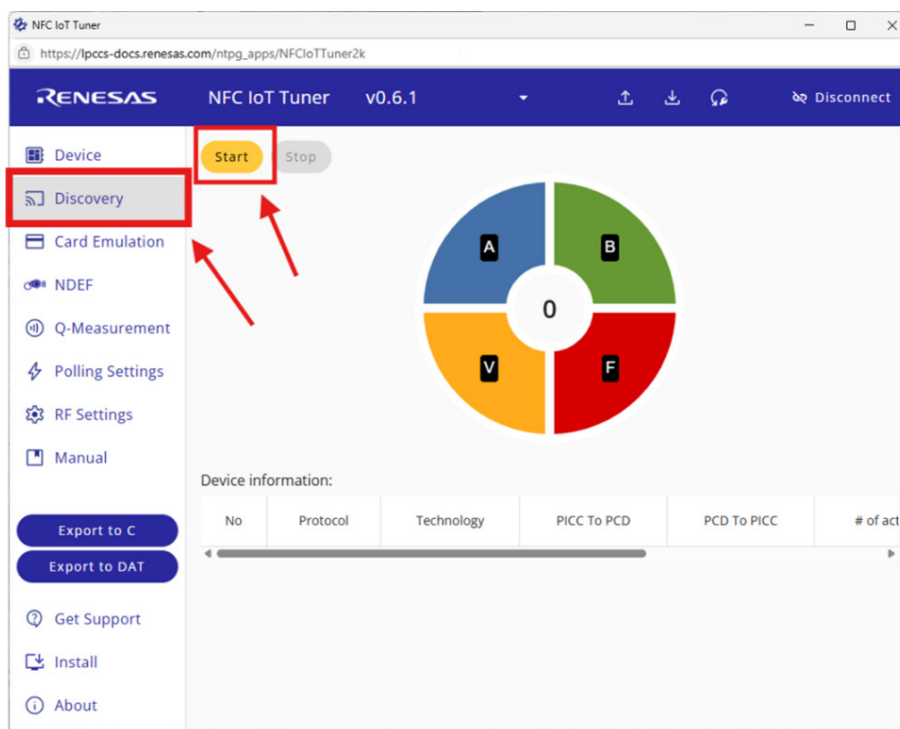

Figure 5. Discovery Loop Window
- To enter the evaluation board's discovery mode, select **Discovery** from the list on the left-hand side of the GUI (see Figure 5) to display the Discovery page.